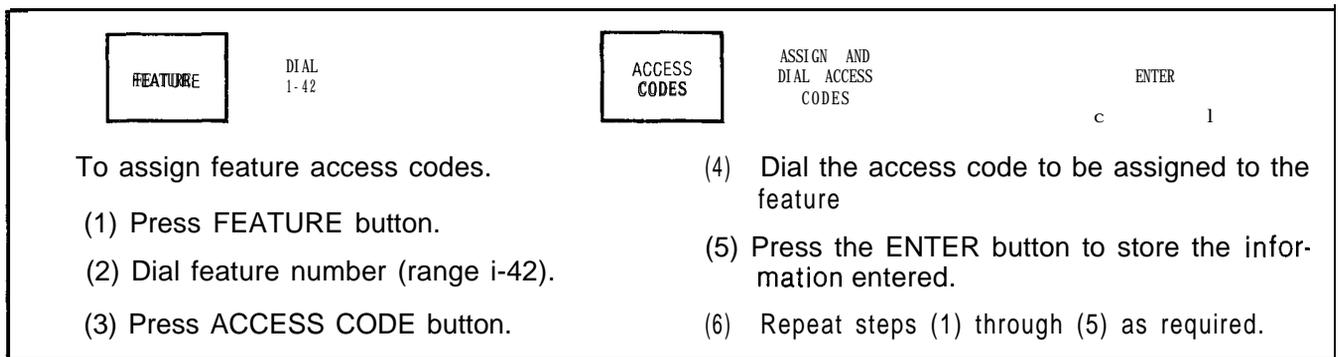

Fig. 3-1 Typical Programming Entry
3.05 To enter the information contained in each table the button shown at the top of the column must be pressed and the code number dialed. An example is shown in Fig. 3-1, Typical Programming Entry.